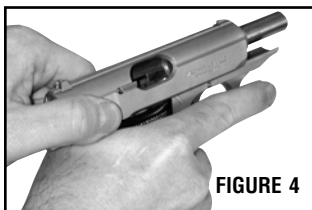

FIGURE 4
- Point the muzzle in a safe direction, grasp the serrated sides of the slide from the rear with the thumb and fingers as shown in Figure 4, and briskly draw the slide fully rearward in order to extract any cartridge from the barrel chamber and clear it from the pistol.